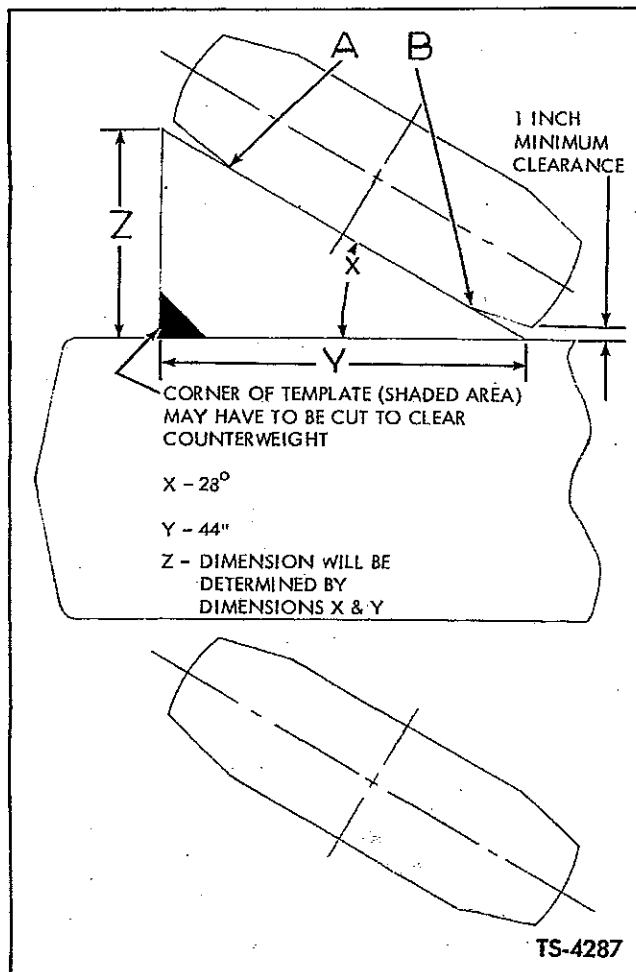

Fig. 47. Check Steer Axle Stops
3. Continue to hold wheels in full left turn position and insert template between tire and machine frame as shown in Figure 47.